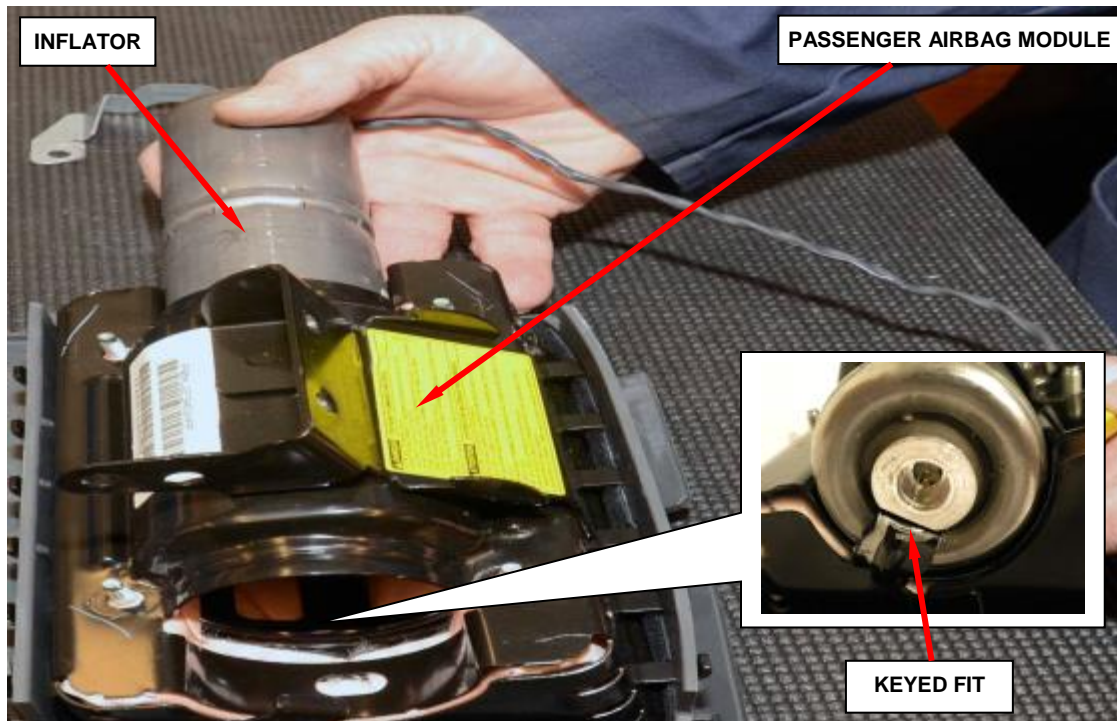

Figure 17 – Passenger Airbag Inflator to Housing
- f. Slide the inflator out of the passenger airbag module (Figure 17).
- g. Slide the new inflator into the passenger airbag module (Figure 17).
NOTE: The inflator is keyed to fit into the housing (Figure 17)